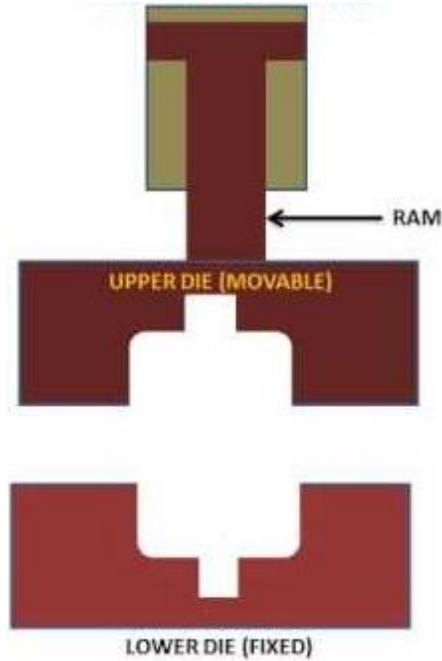

Figure 2
- b) Figure 2 shows a metal forming process which uses a slower and continuous pressure to shape metal into a certain shape. State the name of the process called and list **TWO (2)** advantages and **TWO (2)** disadvantages of it.